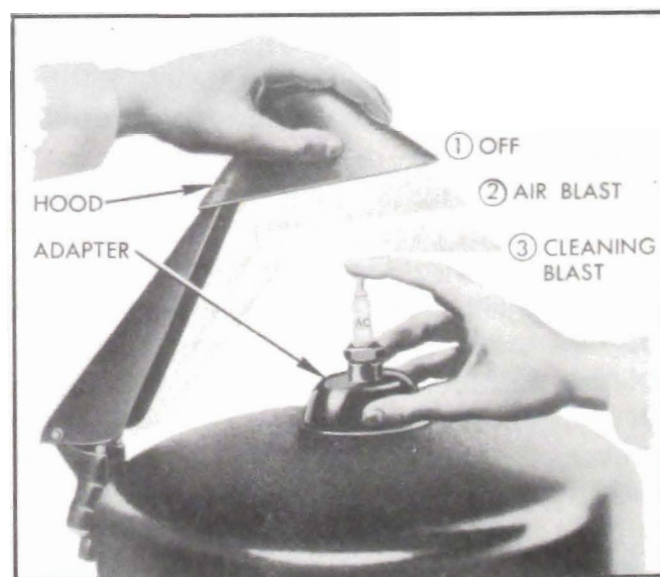

Figure 10-81—Use of AC Spark Plug Cleaner
3. Place spark plug in adapter of proper size and hold adapter and plug in spark plug cleaner with one hand. Push cleaner hood half way down to "air-blast" position to blow out loose dirt and dry out plug, then press hood all the way down to "cleaning-blast" position and hold for 2 or 3 seconds. See figure 10-81.